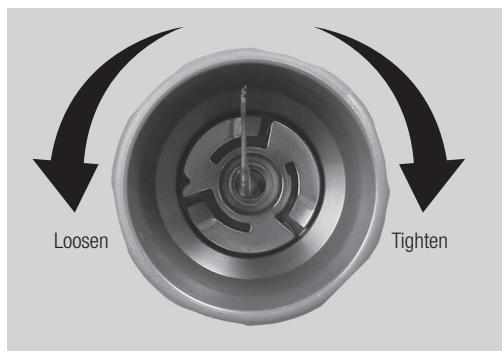
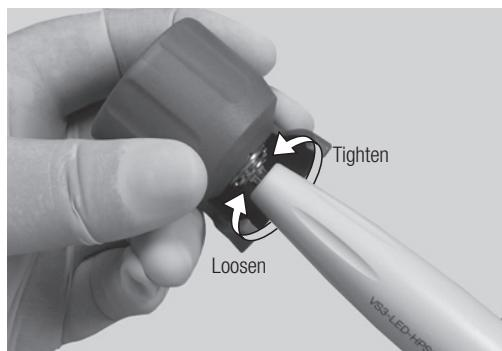

Fig. 17
Fig. 18
- 3) Rotate the wrench in the (clockwise) direction, (Fig. 17 and 18) until it makes a click sound and cannot rotate any further.
- \* To remove the Tip, rotate the wrench in the (counter-clockwise) direction shown in Fig. 17 and Fig. 18.